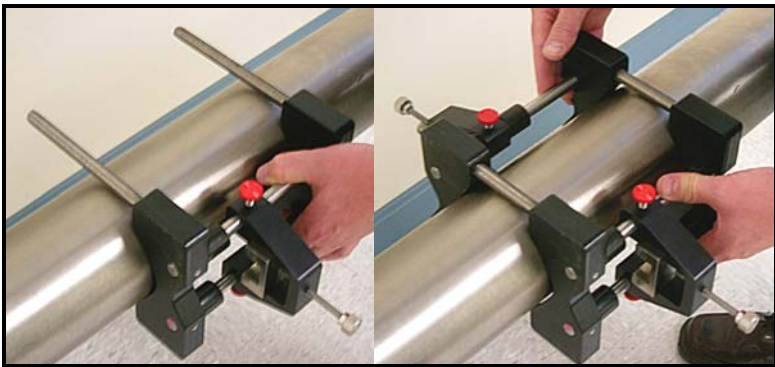

Figure 3-7: Mounting the Two Halves of the Fixture
1. Position the half of the clamping fixture with the threaded rods around the pipe, as shown in Figure 3-7 below. Orient the fixture in the 3 o'clock position on a horizontal pipe.
2. Position the mating half of the fixture over the threaded rods in the 9 o'clock position. Figure 3-7 below shows the two mounted halves.